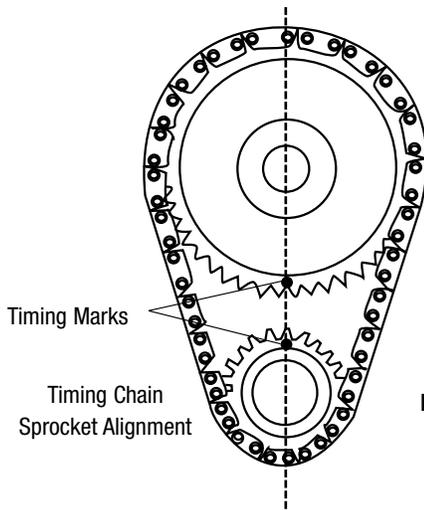

Figure 1
13. Rotate engine until timing marks are aligned as shown in Figure 1.
CAUTION: Use Edelbrock Performer-Link True Rolling Timing Chain and Gear Set #7820 or Accu-Drive gear drive set #7892. Do not use late model timing chain & gear sets that are designed in a retarded position and are not recommended for this camshaft installation. Edelbrock Timing Sets feature three keyways for specific timing selection. Use locking compound material on the bolt threads holding timing gear to cam. Torque to factory recommendations specified in motor repair manual. Install camshaft with timing marks lined up as recommended by factory specifications. See Figure 1. When using Performer-Plus Timing Chain and Gear Sets (7800 series) with Edelbrock cam and lifter kits, straight up timing alignment is achieved. If any other timing gear set is used, it is necessary to check cam position for correct timing alignment. This requires indexing the camshaft with a degree wheel to verify timing alignment. O.E.M. or non-Edelbrock timing gear sets are not recommended for use with Edelbrock camshafts.
High performance pushrods and rocker arms and studs are recommended for this installation. After the cam is installed and timed correctly (see Figure 1), it will be necessary to check each pushrod for correct lifter pre-load.